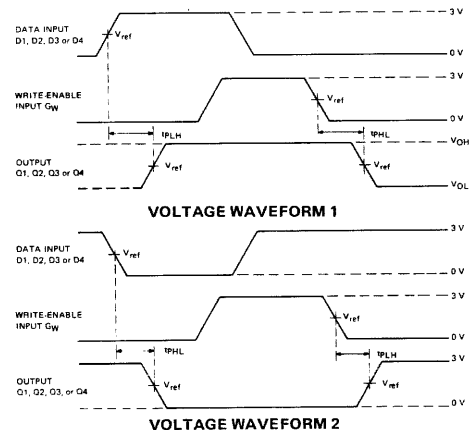

FIGURE 3
- C. In Figure 3, each select address is tested. Prior to the start of each of the above tests, both write and read address inputs are stabilized with $W_A = R_A$ and $W_B = R_B$. During the test G_R is low.